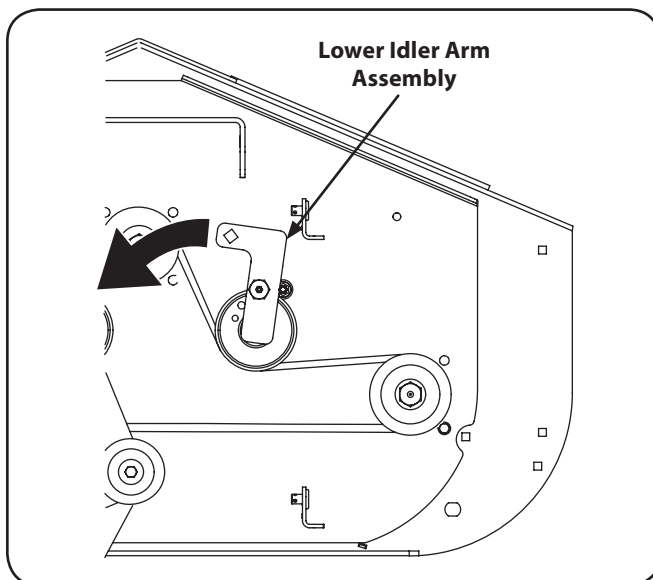

Figure 7-4
- Using a $\frac{3}{8}$ " socket breaker bar or socket ratchet insert the drive end into the $\frac{3}{8}$ " square opening in the lower idler arm assembly and push the idler arm counterclockwise. See Fig. 7-4. While holding the idler arm back, loosen the deck belt from the pulley and slide the belt away from the pulley.